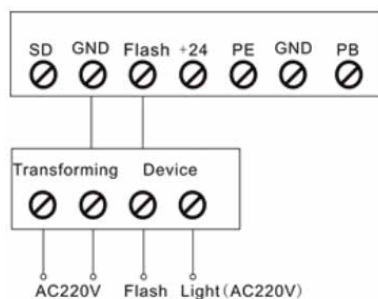
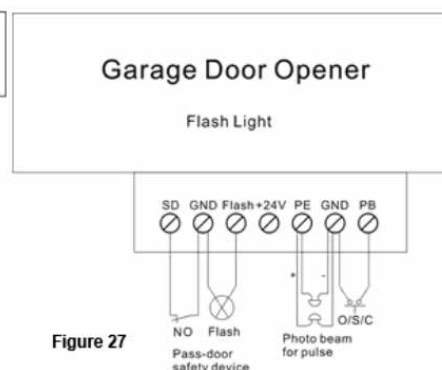

Figure 26
Figure 27
1. Available O / S / C interface (Fig26, Fig. 27)
2. Flashing light function (Fig26, Fig. 27)
3. Protection of the door of passage (SD) (Fig26, Fig. 27)